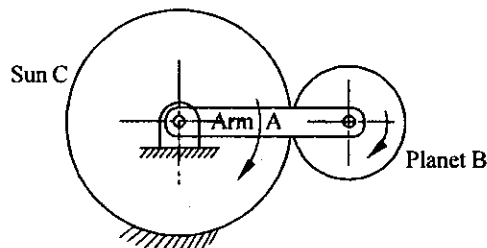

Fig. 7.7
**Epicyclic gear train :** Epicyclic gear train is one in which the axis of one or more gears moves relative to the frame. It is also called as *planetary gear train*. In the arrangement shown in fig. 7.7, the sun gear C is fixed to the frame. The planet gear B, carried by a revolving arm A, rotate not only about their own center but also about the center of the fixed gear.
Fig. 7.7 shows an epicycle gear train which is composed of a sun gear C, planet gear B, and the arm A. Assume the gear B is the driver and gear C is the driven member which is free to rotate.